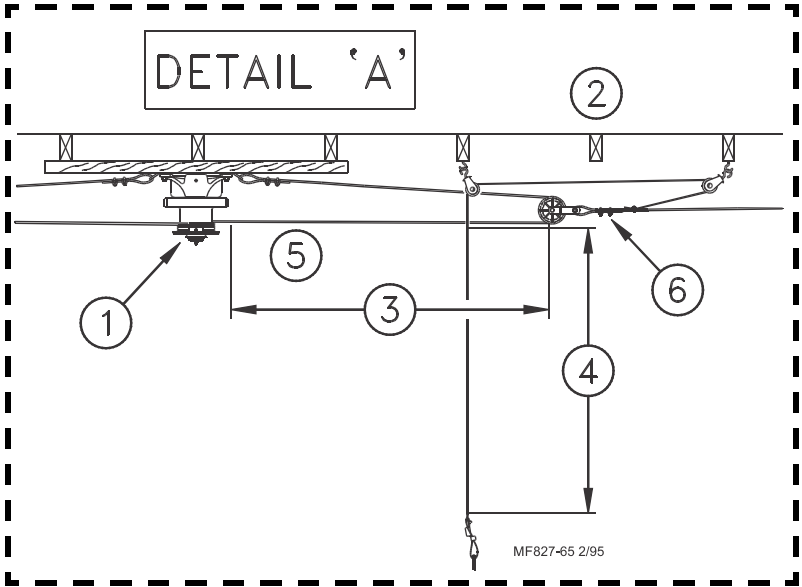

Figure 6. Suspension system overview for installations over 250 feet (76 m). Details A, B, C, and D provide specific component suspension information.
The feeder line suspension is a vital part of your feeding system. Take time to thoroughly plan the system to insure proper operation. **Figure 6. on page 12** provides an overview of the suspension required for systems 250 feet (76 m) or more. **Figure 7. on page 13**, provides an overview of the suspension system for installations 250' (76 m) or less, using (1) hopper. Enlarged, detail drawings show critical suspension information.
STRAIGHT LINE SUSPENSION SYSTEMS OVER 350 FEET (106 M): A separate winch and suspension system is required to raise (and lower) each side of the ULTRAFLO® Feeder. Double-backs are required at each winch, as shown in **Figure 6. on page 12**. Two cable clamps are required to connect the main cable to the Double Back Pulley.
Sufficient cable is included to provide "throwbacks" on drops located beneath and near the winch. Detail A on **Figure 6** shows a "throwback" cable arrangement.